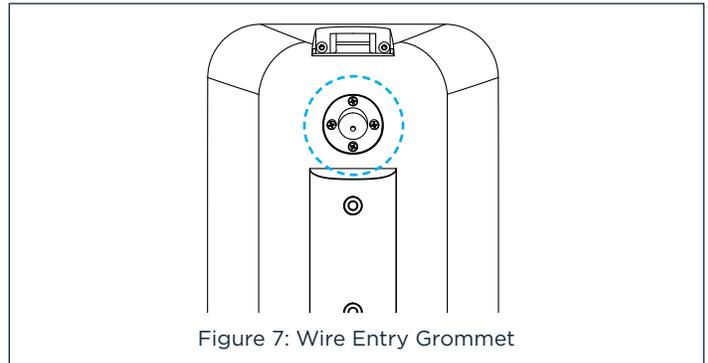

Figure 7: Wire Entry Grommet
- Feed the speaker wires from the bracket into the wire entry grommet on the back of the speaker, through the wire tunnel and out the opening on the speaker's front panel (see Figure 7).